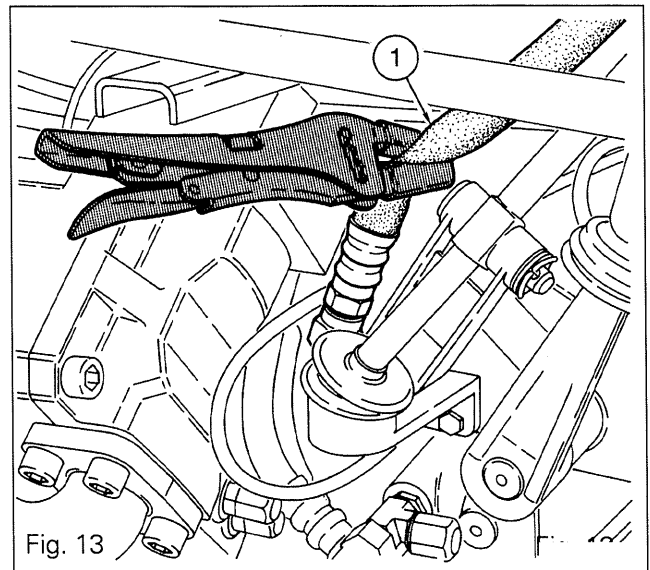

Fig. 13
### G. Bleeding the clutch control (Fig. 13 and 14)
101. Pinch the return hose (1), taking care to protect it (Fig. 13).